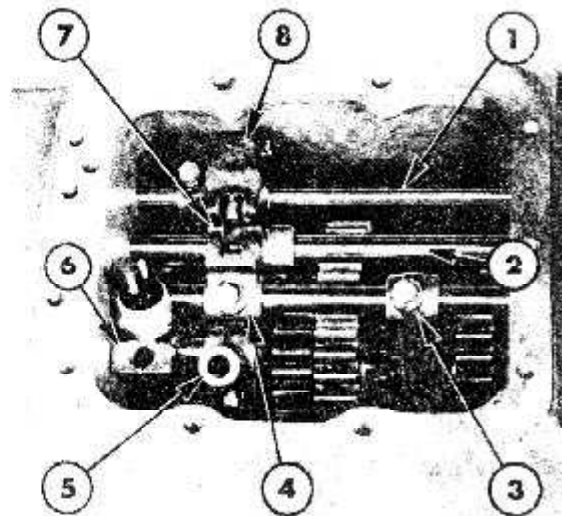

Figure 22
2. Rotate the high/low rail until the shift connector retaining screw and locknut are uppermost. Figure 22. Loosen the locknut, remove the screw, and slide the rail out to the rear, removing the shift connector and safety start switch assembly from the rail.